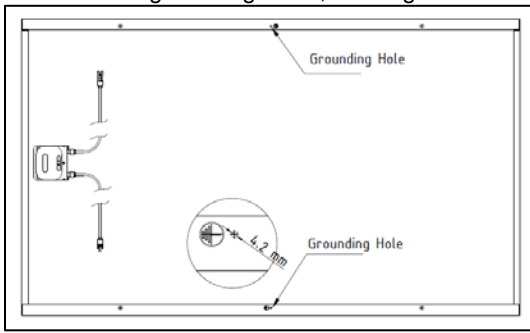
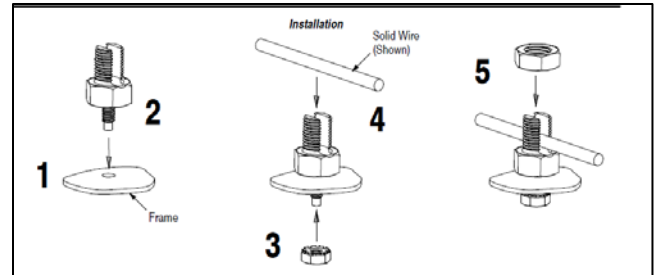
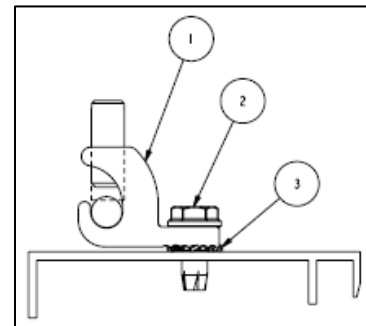
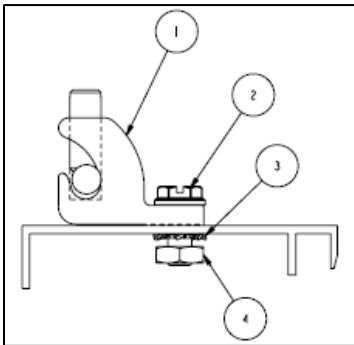

Figure 3: Grounding Hole Location
Figure 6: Solklamp Grounding Bolt Diagram
Figure 7: Self Threaded Grounding Lug: Grounding Diagram
Figure 8: Grounding Lug with Nut: Grounding Diagram
Figure 3 that are marked by the grounding symbol. . The flange on which the grounding hole is located
Attach the grounding conductor to the module frame through at least one of the two grounding holes, See Figure 3.
The grounding clip manufactured by Tyco Electronics Corp. (Part number: 1954381-1) is UL listed and designed for module grounding applications using a solid 10 to 12 AWG un-insulated ground wire. It is attached to grounding hole on module frame, Figure 3, by an integrated, 10-32 in. self-tapping screw. Place the grounding clip onto the frame, making sure that the screw straddles the grounding hole. Using a No. 2 cross-recessed screwdriver, thread the screw into the hole until the head is flush with the base and the base is flush with the frame, then tighten the screw with another 1/4 to 1/2 turn. Recommended torque is between 20 in-lb (2.3 N-m) for screw. Insert the wire into the wire slot. Press down on both ends of the wire (the wire slot will cause the wire to form a slight curve). Manually, or using channel lock pliers, push the slider over the base until it covers the base. This will terminate the wire.
grounding applications using a solid 6 to 12 AWG un-insulated ground wire. It is attached to grounding hole on module frame, Figure 3, by an integrated, 8-32 in threaded post and nut. Locate the grounding hole on the underside of the module frame (1). Insert the threaded post end of the wire bolt into the hole (2). Finger-tighten the hex washer nut onto the threaded post (3). Position the grounding wire into the wire slot (4). Finger-tighten the nut onto the wire slot end until wire is compressed (5). Using a 9/16" open end wrench to hold the hex body of the wire bolt, and using a 9/16" socket wrench, tighten the mounting hex washer nut (3) to a torque of 25 in-lb (2.82 N-m). While holding the hex body, use an 11-32" socket wrench to tighten the wire binding hex nut (5) to a torque of 45 in-lb (5.08 N-m). See Figure 6.
The grounding bolt manufactured by IlSCO (Part number: GBL-4DBT) and bolt manufactured by Burndy (Part number: CL501TN) are UL listed and designed for module grounding applications using a solid 4 to 14 AWG un-insulated ground wire. Locate module grounding hole, Figure 3. Assemble a # 10 stainless steel star washer (1) and #10-32 self-tapping screw (2) through grounding lug (1) and into the module grounding hole until washer and lug are flush with frame as shown in Figure 7. Using a 5/16 in. open ended wrench to tighten the screw (2) another 1/4 to 1/2 turn with recommended torque between 20 and 25 in-lb (2.3 and 2.8 N-m). Insert grounding wire into conductor slot of lug and tighten threaded set screw using a 5.5 x 0.8 mm (3/16 x 0.025 in.) flat headed driver to the torque specified in Table 1 to compress the conductor.
The grounding bolt manufactured by Burndy (Part number: CL501TN) is UL listed and designed for module grounding applications using a solid 4 to 14 AWG un-insulated ground wire. Locate module grounding hole, Figure 3. Using a 5/16 open ended wrench, thread #10-32 self-threading screw through the grounding hole to open up the hole size and remove. Assemble a #10-32 bolt (2) through the grounding lug (1) and into the module grounding hole. Install a # 10 stainless steel star washer (3) and hex nut (4) around the frame until washer and lug are flush with frame, as shown in figure 8. Using two 5/16 in. open ended wrenches to tighten the screw (2) and bolt (4) another ¼ to ½ turn with recommended torque between 20 and 25 in-lb (2.3 and 2.8 N-m). Insert grounding wire into conductor slot of lug and tighten threaded set screw using a 5.5 x 0.8 mm (3/16 x 0.025 in.) flat headed driver to the torque specified in Table 1 to compress the conductor.